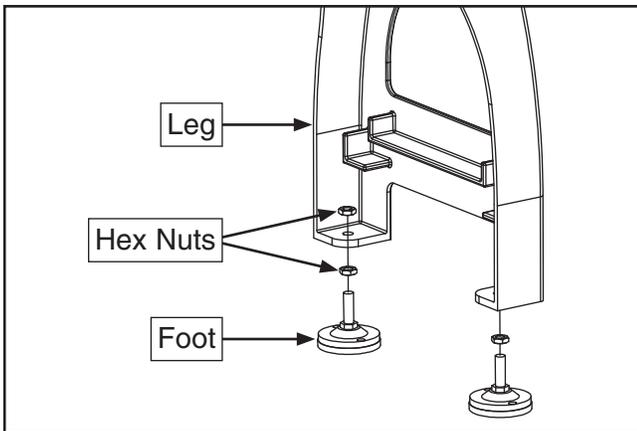

Figure 14. Machine feet positioned for installation.
- Remove top hex nut from feet, insert feet in mounting holes in leg (see **Figure 14**), then thread top hex nut back on. Do not tighten hex nuts yet.